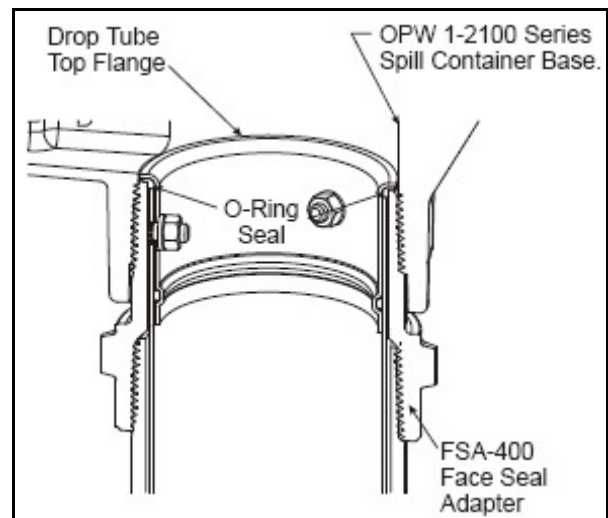

Figure 3
**Step 3:** (See Figures 3 and 3A)